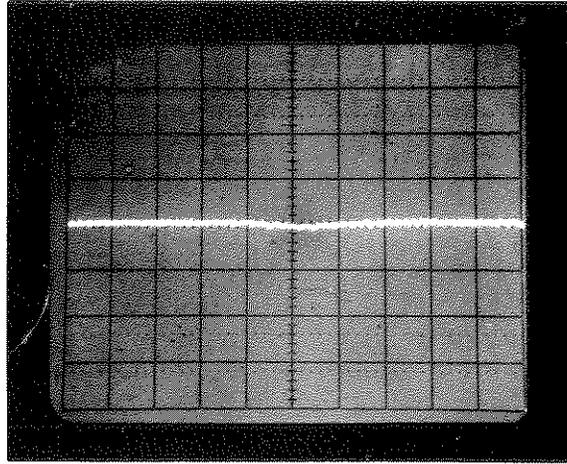

Figure 3-29. CRT Trace With Front-Panel VERT POSN Control Correctly Adjusted
- j. On the 8750A, press B then INPUT. Press STORE INPUT. When STORE INPUT indicator (LED) turns off, press INPUT-MEM. The CRT trace should appear as shown in Figure 3-29. Adjust the 8750A VERT POSN control to place the CRT trace on the center graticule line. Next, set the 8750A VERT GAIN control full counterclockwise.